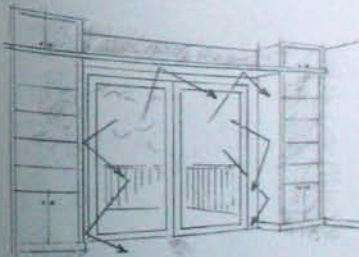

Figure 3
- **First**, see if you can reflect light from an existing opening further into the space by painting the opposite and/or adjacent wall and ceiling a light, reflective color. Extending the jambs of a window with built-in bookcases will also reflect light into the room and give you extra storage (see figure 3).